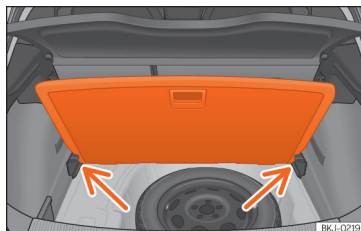

Fig. 114 Variable luggage compartment floor:
- Rest the floor on its housings »» Fig. 114 (arrows).